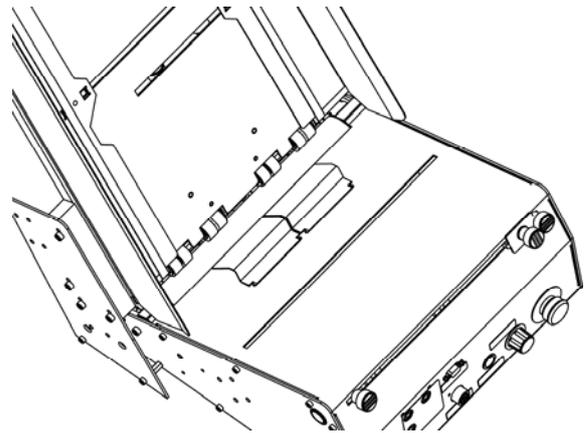

Figure 18: Using both wedges
- Inserting both of the wedges into the outer pair of holes of the contact plate. You may have to remove the paper feed ramp temporarily to get better access to the contact plate (see Figure 18).